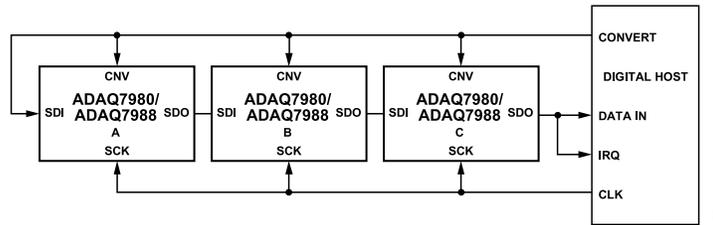
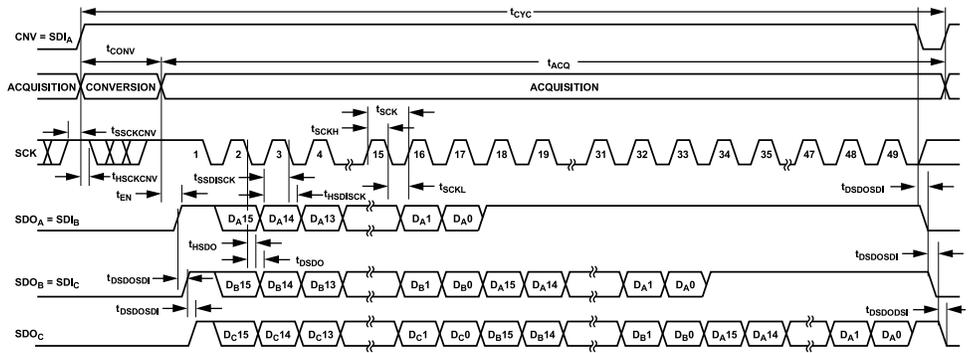

Figure 81. Chain Mode with the Busy Indicator Connection Diagram
Figure 82. Chain Mode with Busy Indicator Serial Interface Timing
- ▶ In chain mode if SCK is high during the CNV rising edge (see Figure 82).
Figure 81 shows a connection diagram example using three ADAQ7980/ADAQ7988 devices, and Figure 82 shows the corresponding timing.
their conversions, drive the SDO pin of the ADC closest to the digital host (see the ADAQ7980/ADAQ7988 ADC labeled C in Figure 81) high. Use this transition on SDO as a busy indicator to trigger the data readback controlled by the digital host. The ADAQ7980/ADAQ7988 then enter the acquisition phase and power down. The data bits stored in the internal shift register clock out, MSB first, by subsequent SCK falling edges. For each ADC, SDI feeds the input of the internal shift register and clocks out by the SCK falling edge. Each ADC in the chain outputs its data MSB first, and  $16 \times N + 1$  clocks are required to read back the N ADCs. Although the rising edge can capture the data, a digital host using the SCK falling edge allows a faster reading rate and, consequently, more ADAQ7980/ADAQ7988 devices in the chain, if the digital host has an acceptable hold time.